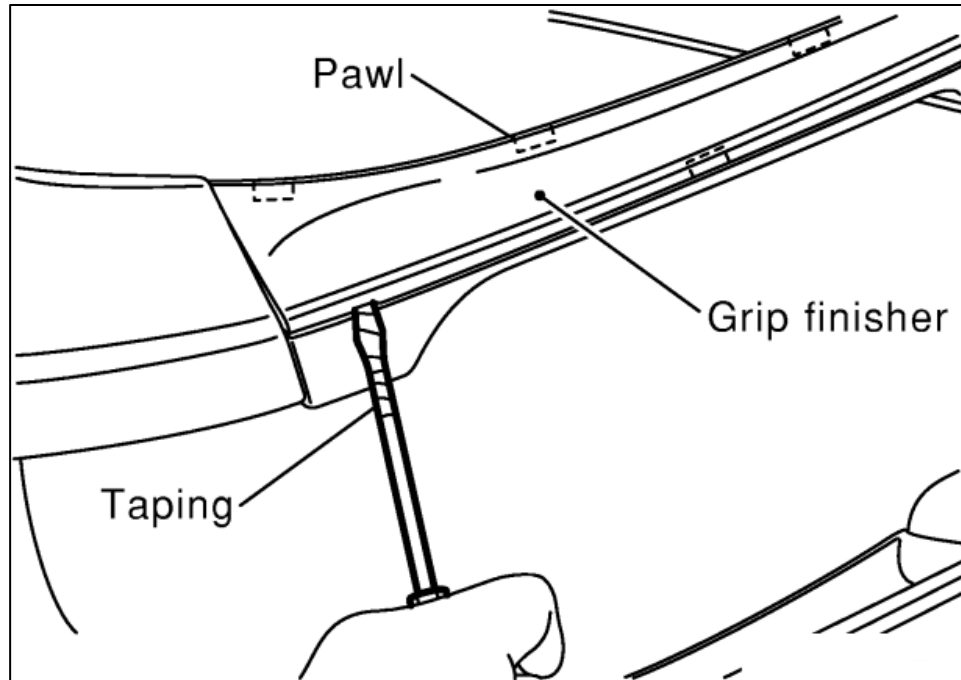

Figure 29
7. Remove the Handle Trim Piece with a Trim Removal tool. *Figure 29.*